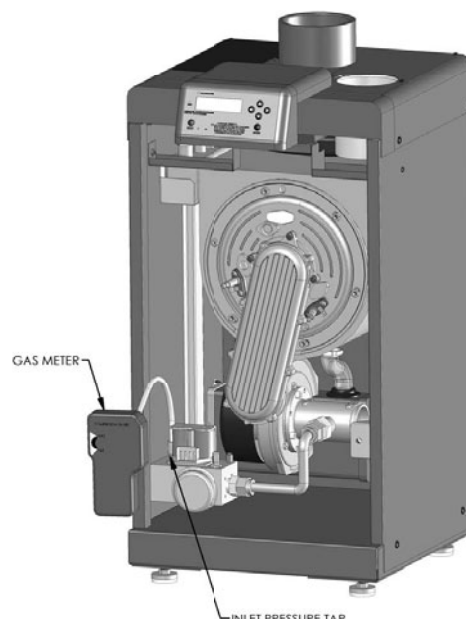

Fig. 7-1
3. Each unit is equipped with a needle valve that will accept a 5/16 ID hose to connect to a digital manometer or liquid gauge to measure incoming pressure from 0-35" w.c. See Figure 7-1.